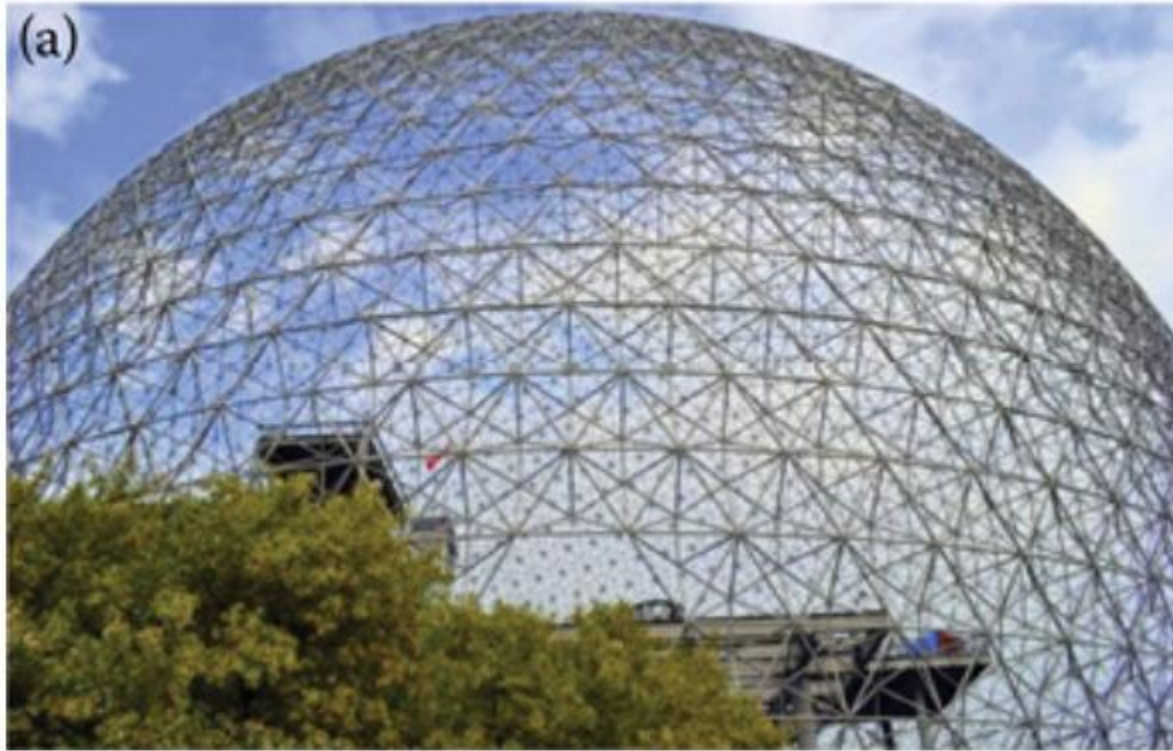

FIGURE 2.1
- ☐ Trusses are commonly used in the design of buildings, bridges, and towers (Figure 2.1). They are triangulated frameworks composed of slender bars whose ends are connected through bolts, pins, rivets, and so on.